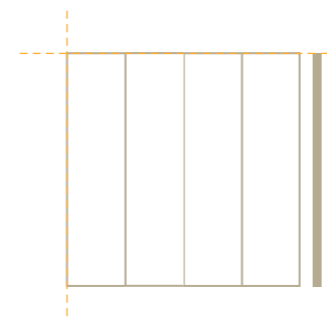

Figure 8: Initial tile with reference lines.
- ❗ Be very careful in laying the initial row correctly and at a right angle, as this is crucial for the rest of the installation process and the end-result. Use reference lines to maintain the direction, as minor inconsistencies quickly spread to the rest of the floor. See figure 8.
3. Push the loose tongue into the tile. All joints between planks must have a tongue/groove joint. See figure 8. Do not glue the tongue. Discard any tongues that are too thin or too tight.